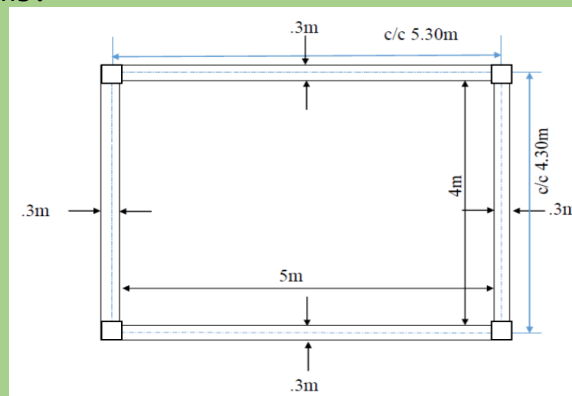

Fig. 6.1. Setting out work for building
1. A centre line sketch of building is prepared as in fig.6.1.